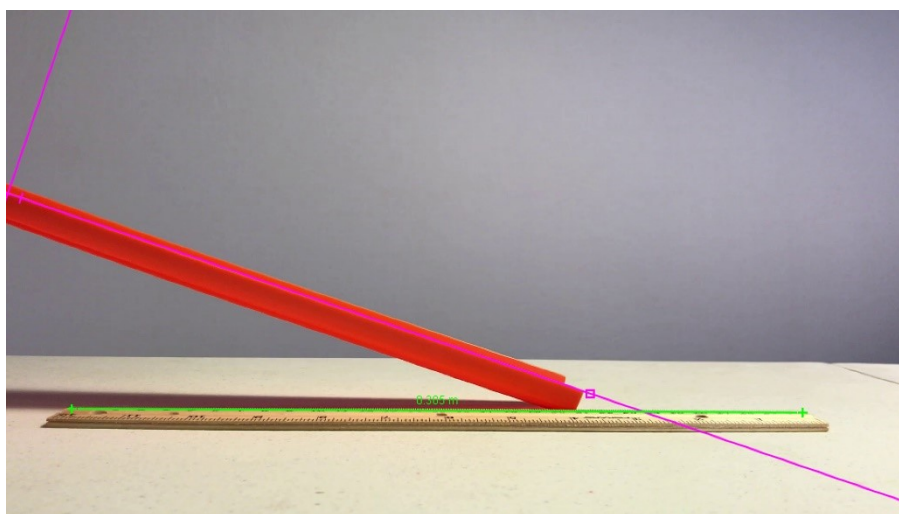

Fig. 4: Align the calibration stick with the back edge of the ruler.
3. Using the Calibration Tools, add a new Calibration Stick, and align the calibration stick to the ruler (Shift+Click on the end points). Since the front of the ruler may appear larger than the back edge, try to place the end points on the back corners of the ruler. Set the length to the length of your ruler (see Fig. 4).
4. Click on the Coordinate Axes and place them on the video. Line up the origin on the edge of the track at the left side of the screen. Then rotate the x-axis down until it is aligned with the edge of the track (see Fig. 4).